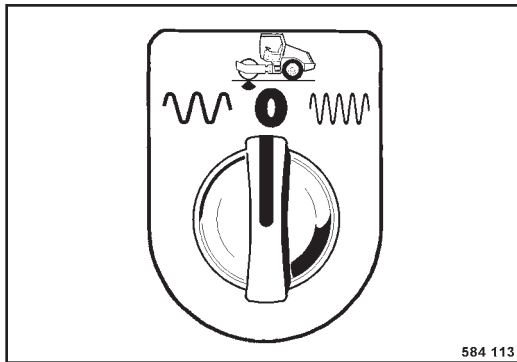

Fig. 34
- Turn the rotary vibration selector switch (Fig. 34) to position "0", vibration off.